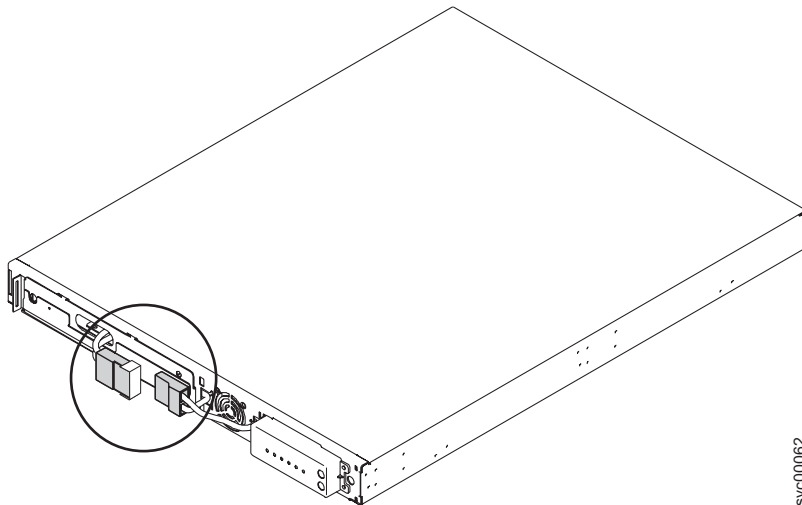

Figure 203. The 2145 UPS-1U internal battery connector with protective tape
7. After pulling the two connectors apart, cover the exposed battery connector (shown in Figure 203) with adhesive tape.